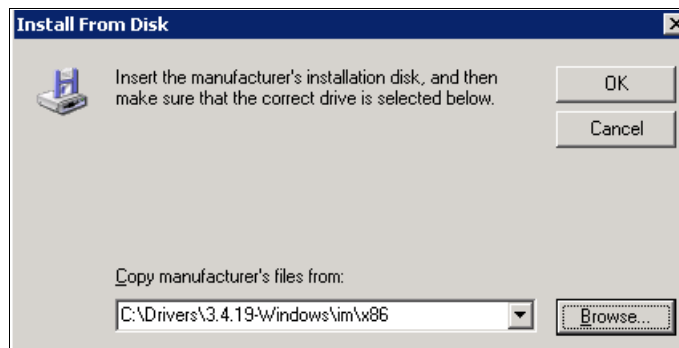

Figure 5-9 Install From Disk window
2. Click **Have Disk**. You will see a window similar to Figure 5-9.